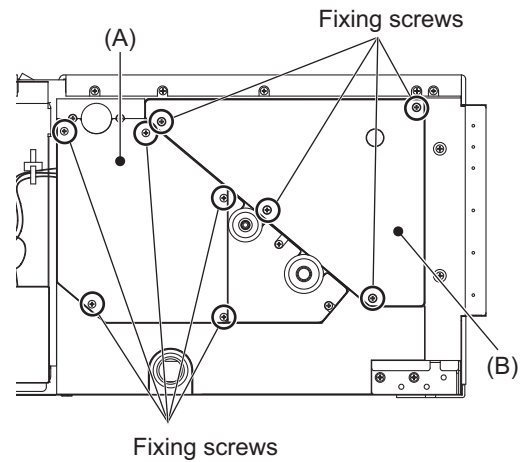

Fig.1
- (1) Remove control box cover with procedure [1]-1.
- (2) Remove the fixing screws (five) of the heat exchanger cover (A), and remove the cover (A). (Fig.1)
- (3) Remove the fixing screws (four) of maintenance cover (B), and remove the cover (B). (Fig.1)